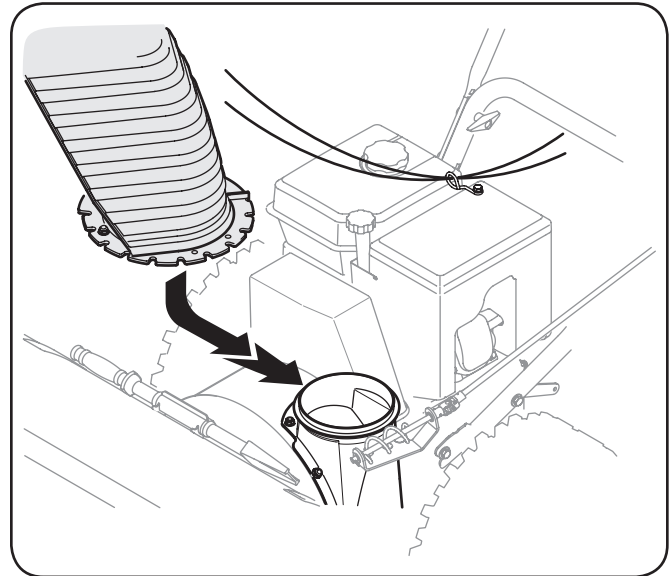

Figure 3-6
4. Check that the chute cables are properly routed through the cable guide attached to the lower handle assembly. See Figure 3-6.
2. Place chute assembly onto chute base as shown in Fig. 3-6. Make sure that the chute notches engage with the spiral end of chute directional control, and the two flange keepers are beneath the flange on the chute base.